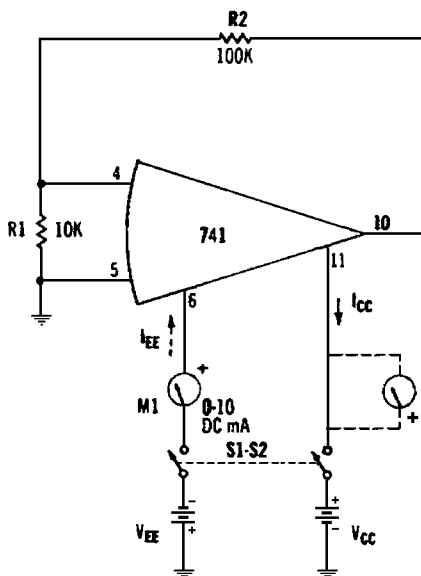

Fig. 2-2. Operating current.
### Required Equipment (Fig. 2-2)
1. With switch S1-S2 open, set up the test circuit as shown in Fig. 2-2.
7. Remove milliammeter M1 from the  $V_{EE}$  lead and reconnect it in the lead between positive supply  $V_{CC}$  and terminal 11 of the IC (see dashed symbol in Fig. 2-2). Again, be careful of meter polarity. Restore the lead from negative supply  $V_{EE}$  to terminal 6 of the IC.